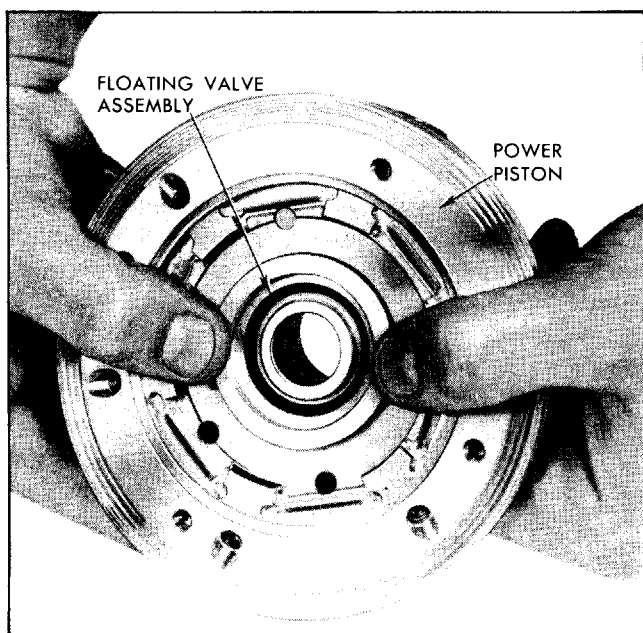

Fig. 5-66 Replacing Floating Control Valve
2. Set power piston casting on bench, hub end down. Press by hand the floating valve assembly, with rubber valve face down, into power piston counterbore (Fig. 5-66).